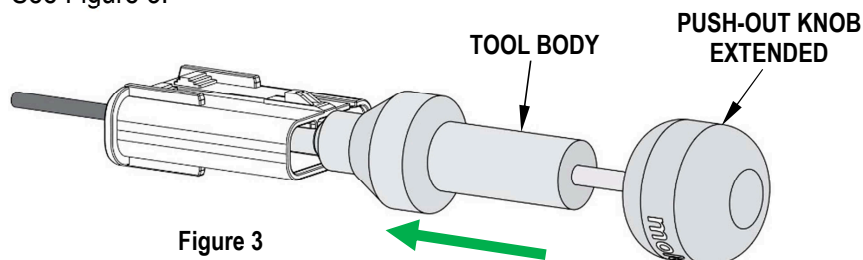

Figure 3
3. With the plug or receptacle now inside of the contact push-out tip, the push-out knob should be extended from the tool body. See Figure 3.